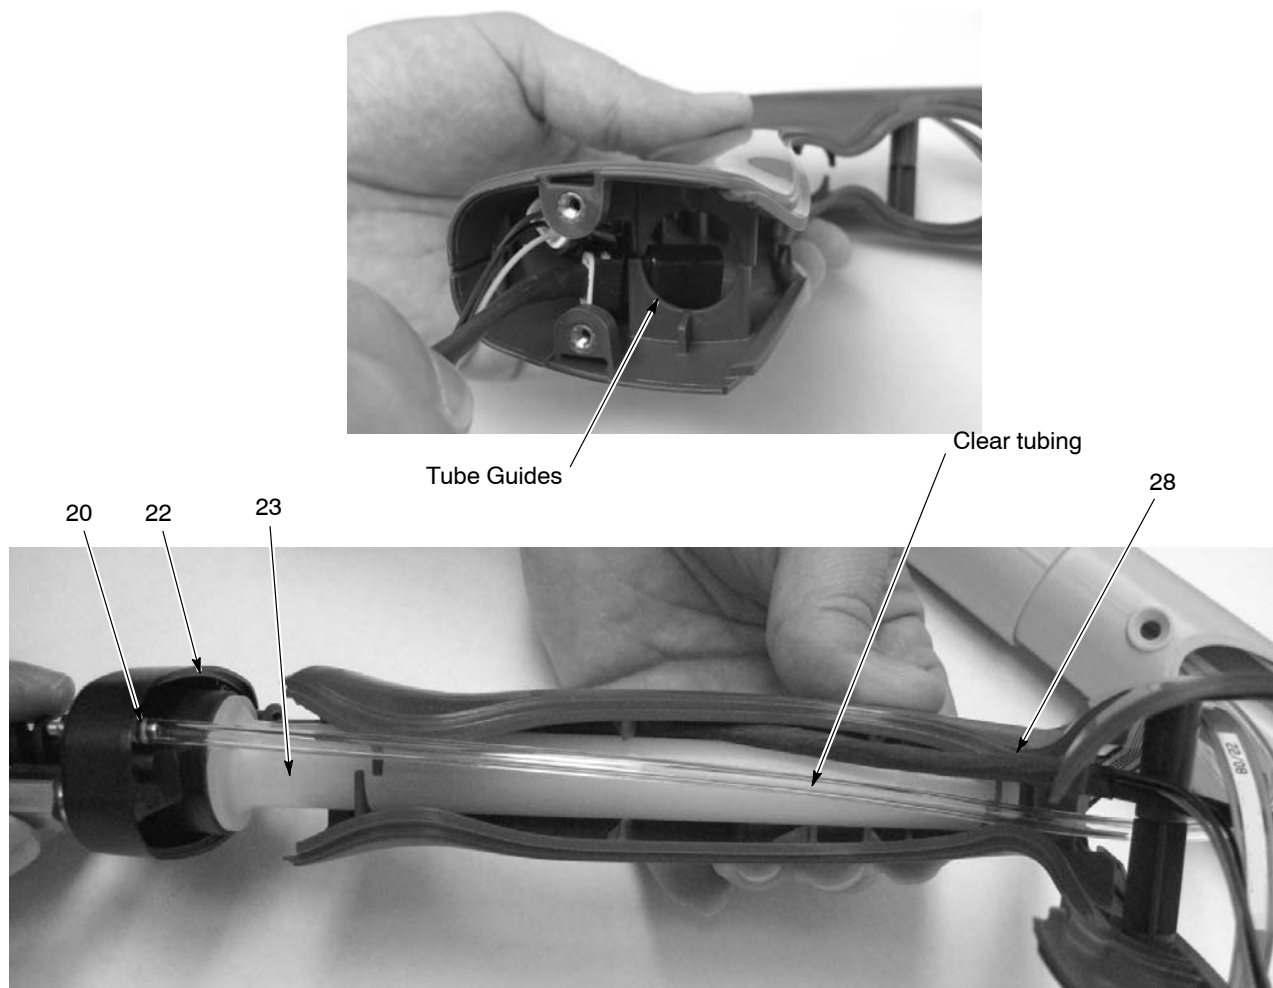

Figure 5-11 Assembling Handles and Base
6. See Figure 5-11. Feed the cable connectors and ground wire into the front of the handle, then slide the inlet tube through the tube guides into the handle assembly while routing the cable through the handle as shown. Stop when the base is about 1.5–2 inches from the bottom of the handle assembly.
7. Connect the 4-mm clear tubing (part of filter assembly, item 4) to the barbed fitting (20) in the handle base.